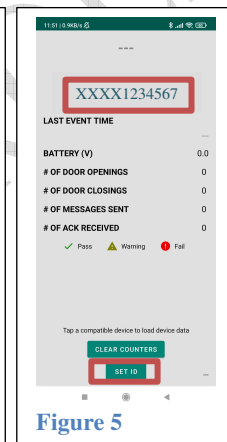

Figure 5
- b. Press set ID button (Figure 5).